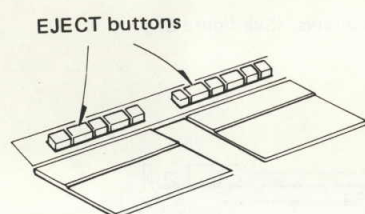
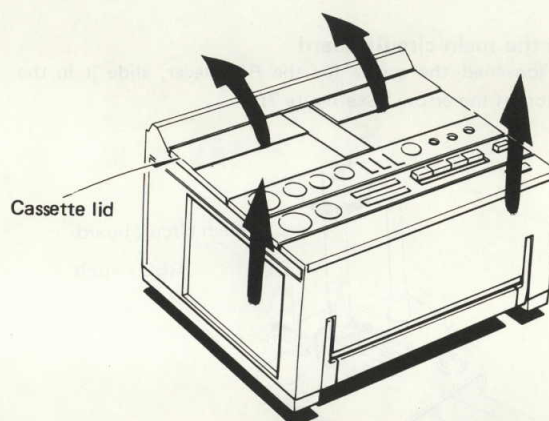

Fig. 3
Fig. 4
- 3) Open the cassette lid by pressing the button, and remove the main cabinet in the direction of the arrows. (See figure 3 and figure 4)